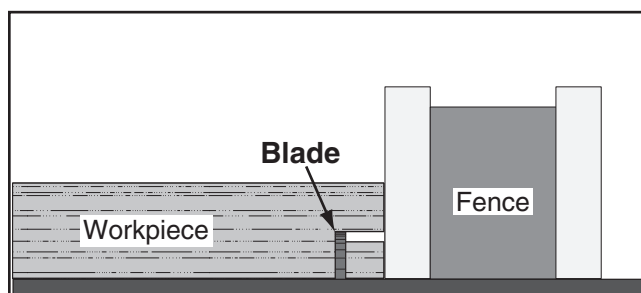

Figure 66. Second cut to create a rabbet.
7. Lay the workpiece flat on the table, as shown in **Figure 66**, adjust the saw blade height to intersect with the first cut, then perform the second cut to complete the rabbet.